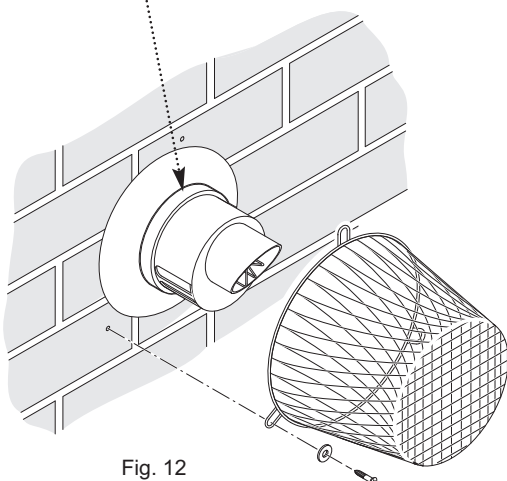

Fig. 12
1. When codes of practice dictate the use of terminal guards (Fig. 12) 'Multifit' accessory part no. 720627901 can be used (**NOTE:** This is not compatible with Flue Deflector referred to below).